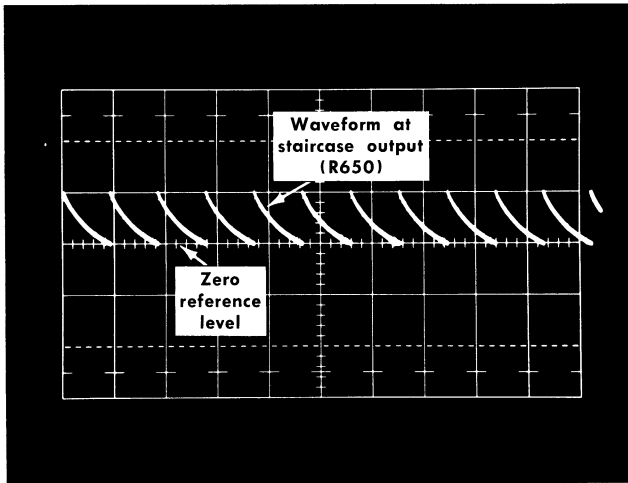

Fig. 5-12. Typical waveform at the staircase output on R650 for checking STAIRCASE ZERO adjustment (R585).
- f. **Check** for a waveform similar to Fig. 5-12, with its base at zero volts (reference level).